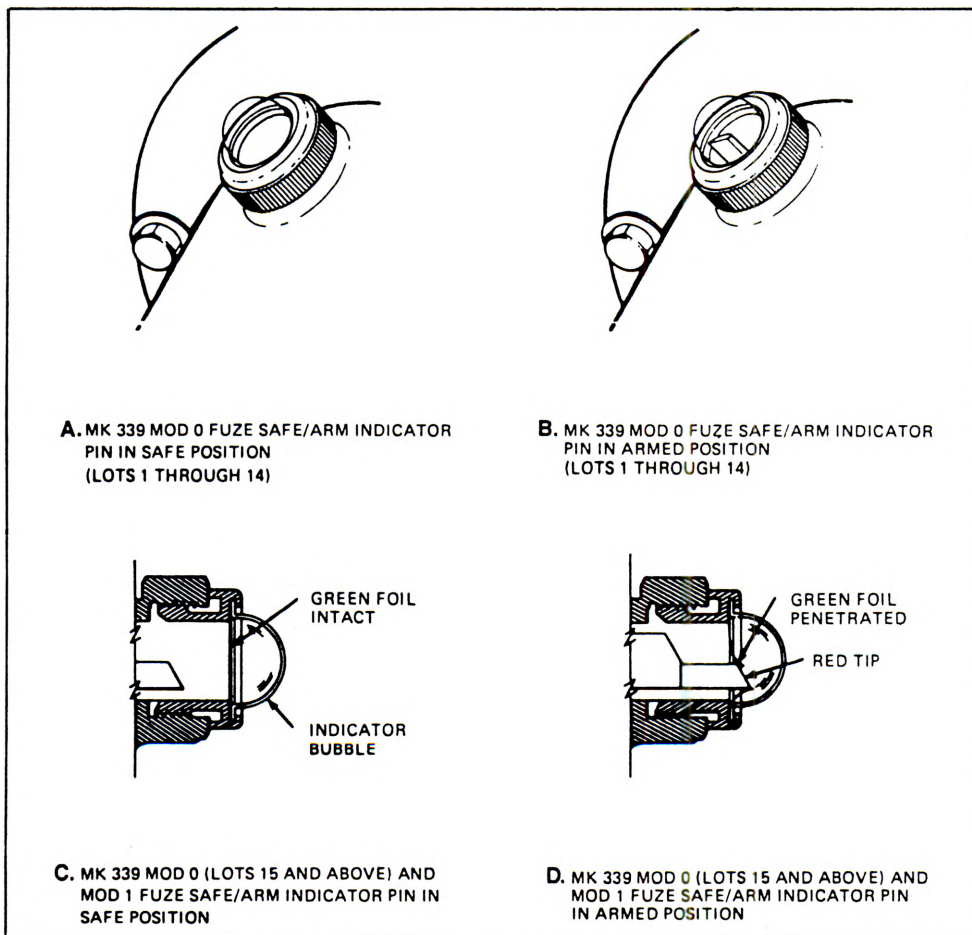

Figure 3-5.—Mechanical time fuze Mk 339 safe/arm indicator pin in safe and armed positions.
14) are in a safe condition when the tip of the indicator pin does not extend into the bubble (fig. 3-5, view A). The fuze is in an armed condition when the indicator pin extends into the bubble (fig. 3-5, view B). On newer models (lots 15 and above of Mod 0 and Mod 1 fuzes), there is a layer of green foil at the base of the indicator bubble. The fuze is in a safe condition when the green foil is intact (fig. 3-5, view C), and it is armed when the green foil is pierced by the indicator pin (fig. 3-5, view D).